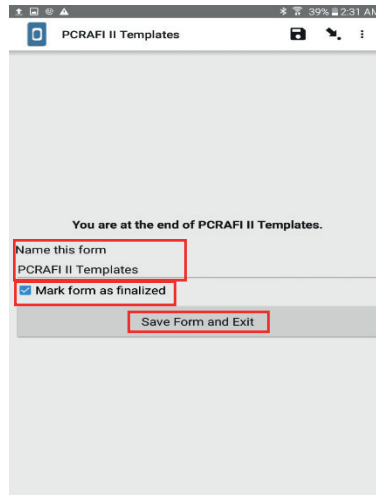
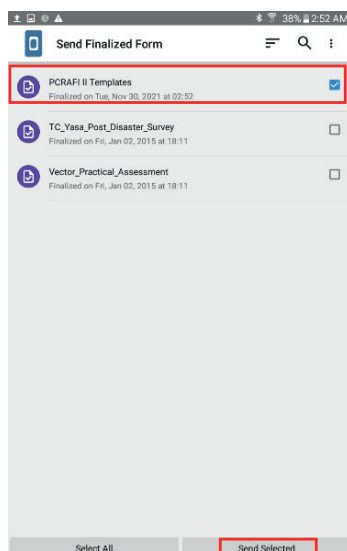
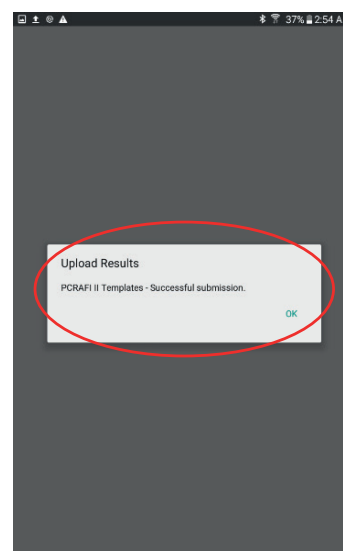

Figure 51: KoBoCollect App - Saving Form and exiting data collection
Figure 53: KoBoCollect App - Selecting Finalized form to upload to Server
Figure 54: KoBoCollect App - Message appears once successfully uploaded
2. Once at the end, the following interface will appear. (Figure 51) At this point, the user is able to rename the form filled and mark the form as finalized.
Click on “Send Finalized Form” (Figure 51). Select name of form filled (e.g., PCRAFI II Templates) and then click on “Send Selected”. (Figure 53) The following message will appear once the form has been successfully sent/uploaded to the server. (Figure 54) Thi